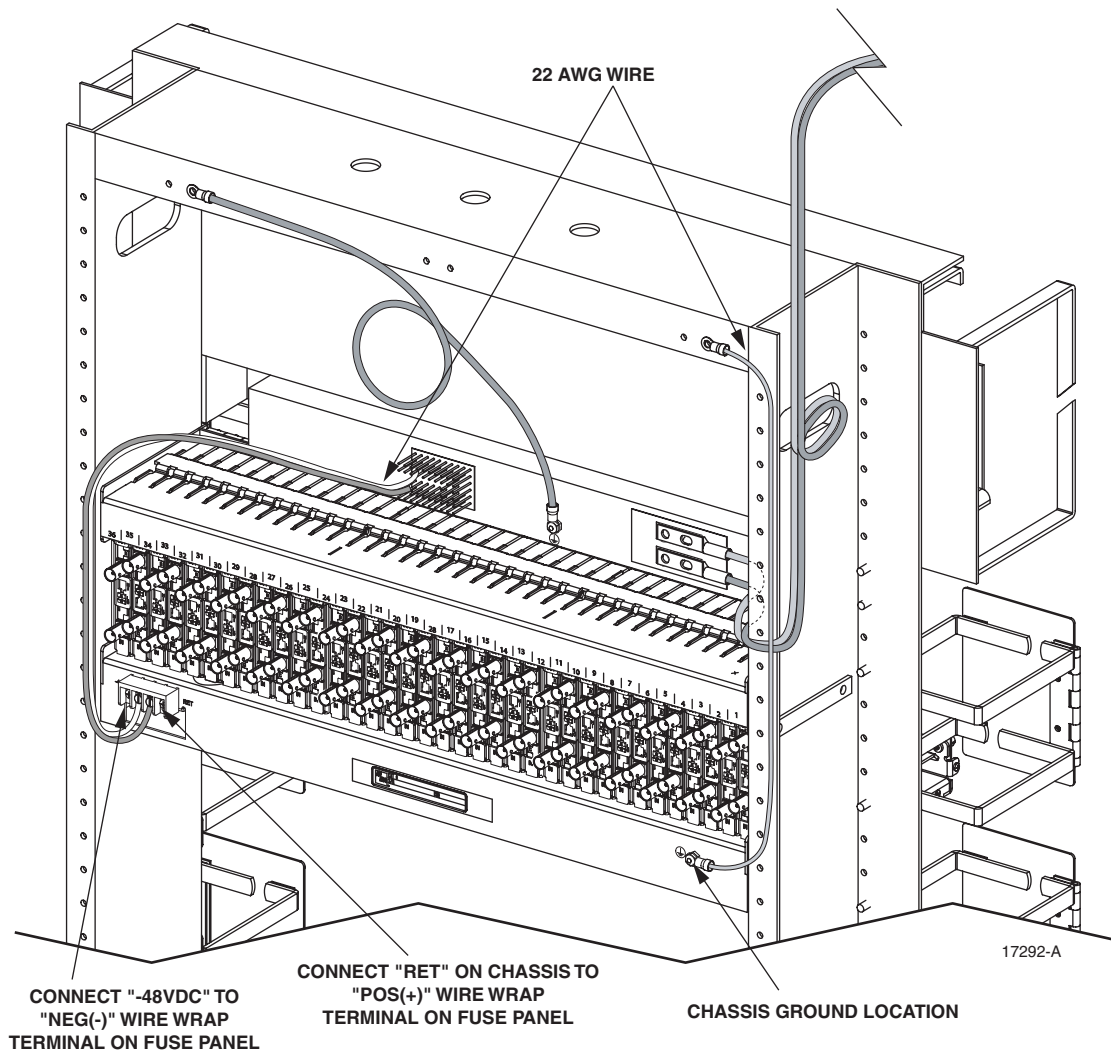

Figure 2-5. Connect Power and Ground Wires to Chassis
1. Connect and route a 22 AWG wire from the -48Vdc connector on the rear of the chassis to an unused NEG (-) wire wrap terminal pin on the rear of the fuse panel. (See Figure 2-5.)
2. Connect and route a 22 AWG wire from the RET connector on the rear of the chassis to an unused POS (+) wire wrap terminal pin on the fuse panel. (See Figure 2-5.)
3. Connect a 22 AWG wire from the chassis GND post to the frame as shown in Figure 2-5.